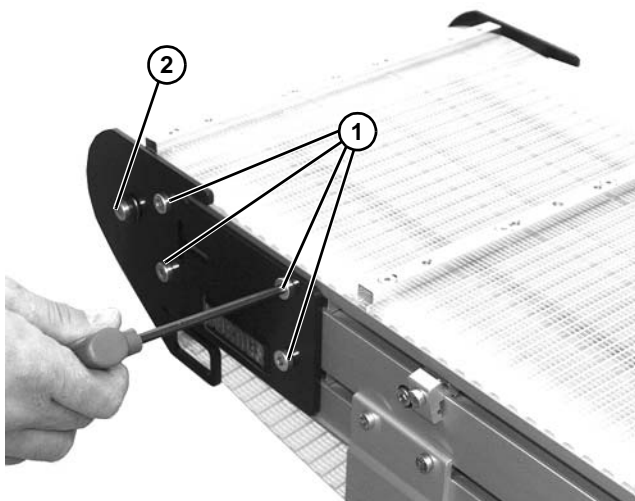

Figure 32
2. On one side of conveyor, loosen the four (4) fastening screws (**Figure 32, item 1**).
3. Remove screw (**Figure 32, item 2**).